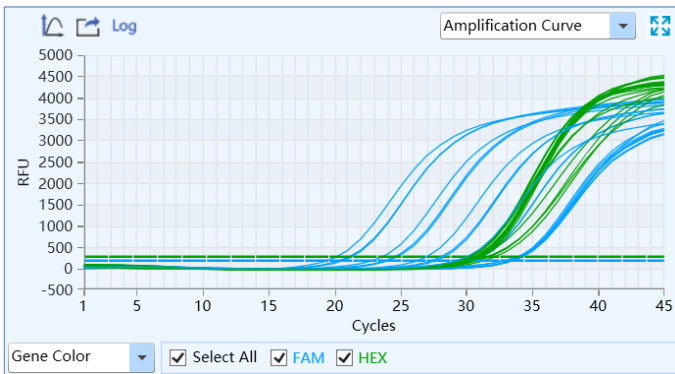

Figure E-10.1 Abs Quant Analysis Interface - Amplification Curve Functional Module
- I. **Amplification Curve:** displays the diagram of fluorescence intensity RFU (Y-axis) against cycle number (X-axis) of the current experiment, as shown in figure E-10.1. The dotted line parallel to the X-axis is the threshold value of the amplification curve.